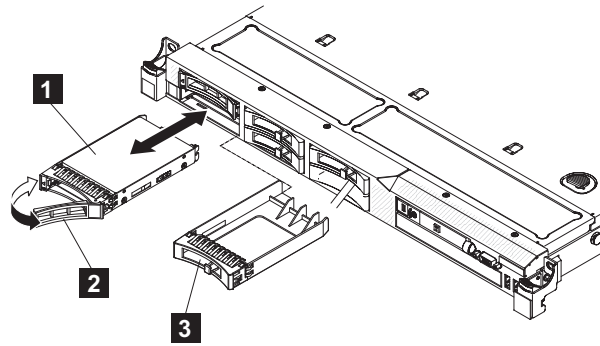

Figure 150. SAN Volume Controller 2145-CG8 or 2145-CF8 drive and drive-bay filler
- b. Align the drive assembly with the guide rails in the bay, as shown in Figure 150 on page 181.